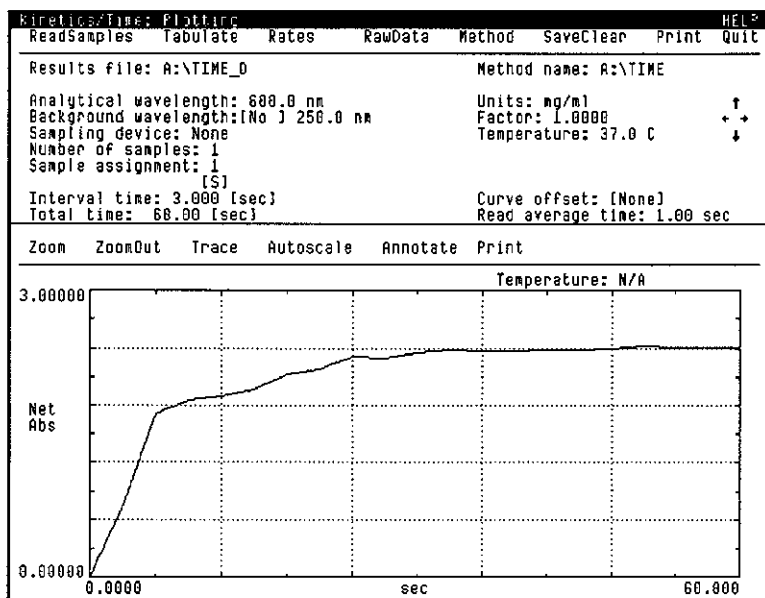

Figure 4-8. Plotting Window
1. With the Main window displayed, click on "**KINETICS/TIME**" to display the Plotting window, Figure 4-8.